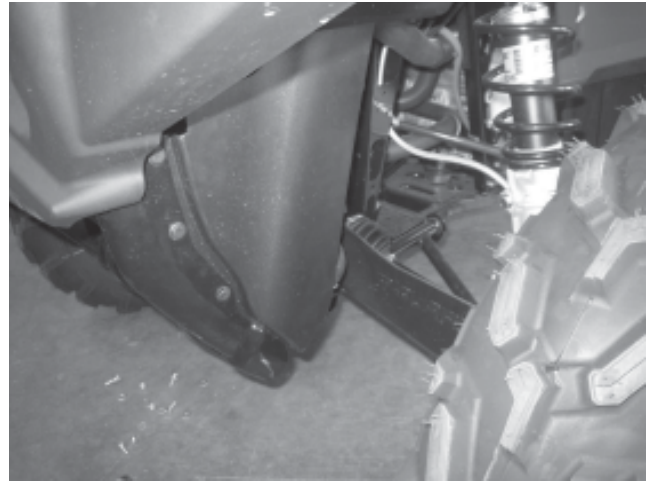

Figure 1
1. Remove the radiator side covers. Using a flathead screwdriver, remove the 6 plastic rivets (3 per side) holding the radiator side covers to the frame, see Figure 1.
2. Remove the front A-arm guards. Using a T25 bit, remove the 6 screws (3 per side) securing the A-arm guards to the A-arms, see Figure 1.